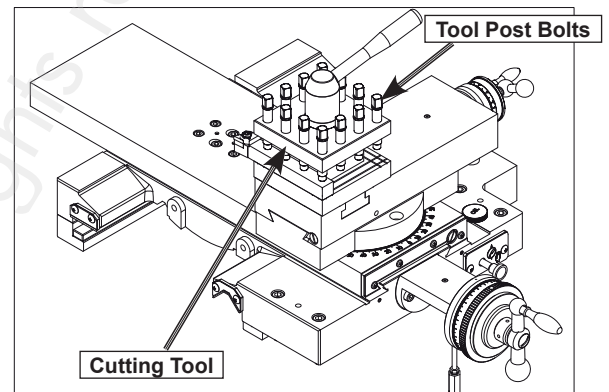

Fig. 41 4-way tool post
3. Firmly secure the cutting tool with at least two tool post bolts, as shown in figure 41.